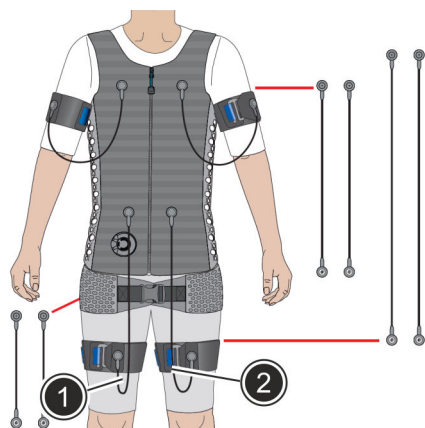

Fig. 47: Connecting the i-body® straps flex
- 19.** Connect both i-body® straps flex to the i-body® (Fig. 47/1 and 2) with the i-body® cable.
***i** When connecting the i-body® straps flex, always ensure that the corresponding cables (longest length) are used, in accordance with Fig. 47.*
***i** When connecting the i-body® belt, always ensure that the corresponding cables (shortest length) are used, in accordance with Fig. 47.*